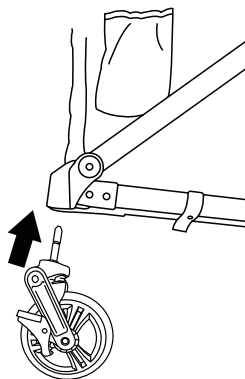

Fig. 2a
- 2) • Insert front wheel axle pin into the wheel hub until the wheel locks firmly into place. Repeat on other side. (Fig. 2a).